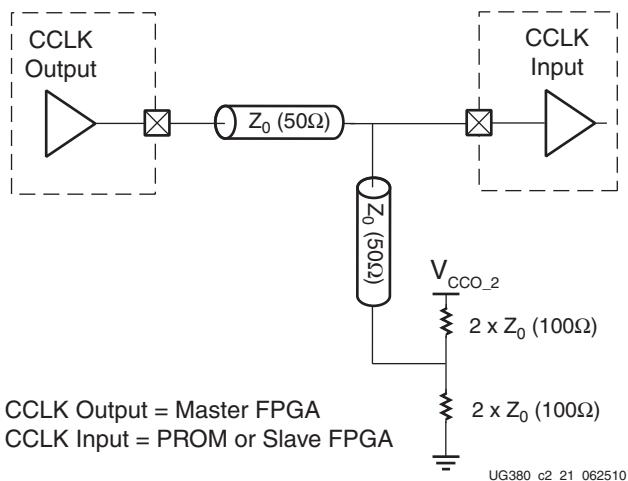
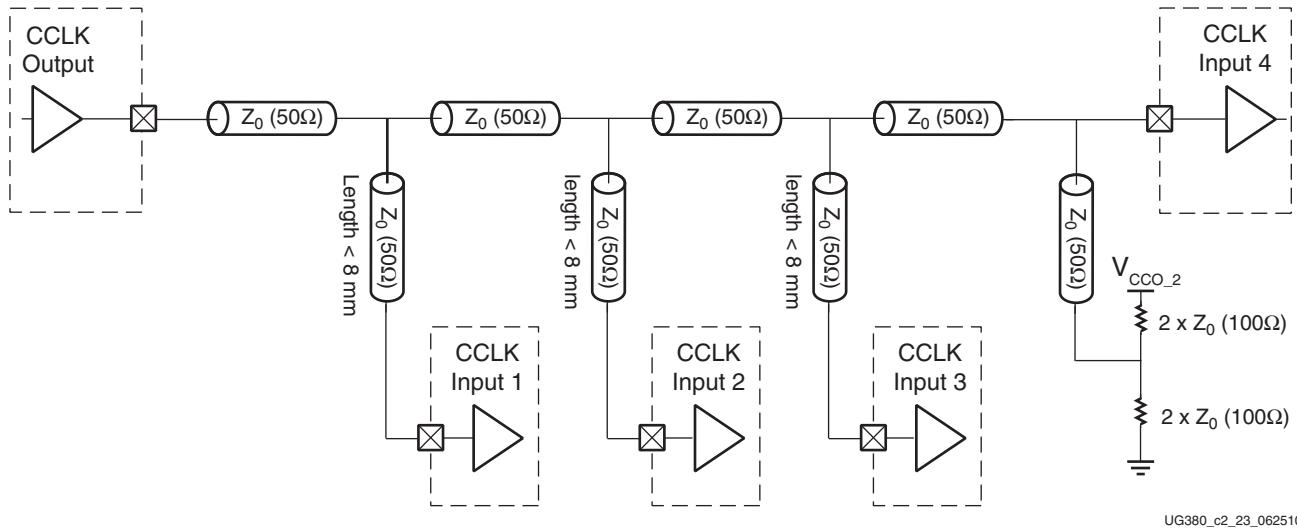
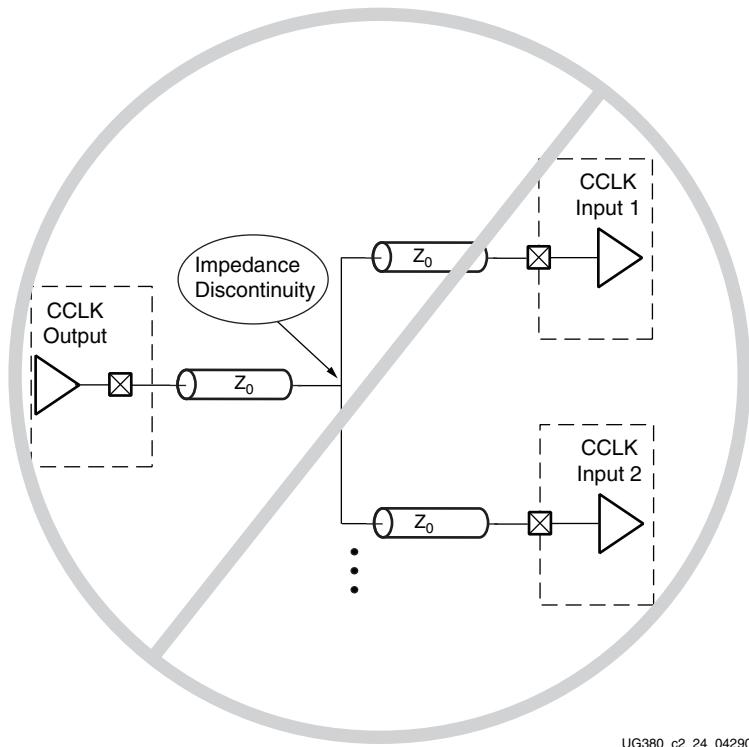

Figure 2-22: Point-to-Point: One CCLK Output, One CCLK Input
Figure 2-24: Multi-Drop: One CCLK Output, More Than Two CCLK Inputs
Figure 2-25: Not Recommended
- Always route the CCLK net without any branching; do *not* use a *star* topology (Figure 2-25).
Familiarity with the advantages and disadvantages of available termination techniques helps the designer choose the best option for the target application. Refer to UG393, Spartan-6 FPGA PCB Design and Pin Planning Guide, for detailed guidelines to determine the appropriate topology for the intended application and detailed trade-offs. Figure 2-22 through Figure 2-24 show a few possible topologies for CCLK distribution. Because the Master CCLK goes to high impedance at the end of the configuration sequence, the examples using parallel termination can be less desirable than other termination options because more power is dissipated. This trade-off must be weighed against other factors to determine the optimal termination topography for an interface.
Figure 2-22 through Figure 2-25 show the recommended topologies for CCLK distribution.
Figure 2-22 shows the basic point-to-point topology for one CCLK driver (FPGA master) and one CCLK receiver (PROM or FPGA slave).
Figure 2-24 shows the multi-drop flyby topology for one CCLK driver and more than two CCLK receivers (four in this example). All CCLK inputs except input 4 have length constraints.
Figure 2-25 shows a *star* topology where the transmission line branches to the multiple CCLK inputs. The branch point creates a significant impedance discontinuity. This arrangement is **Not Recommended**.